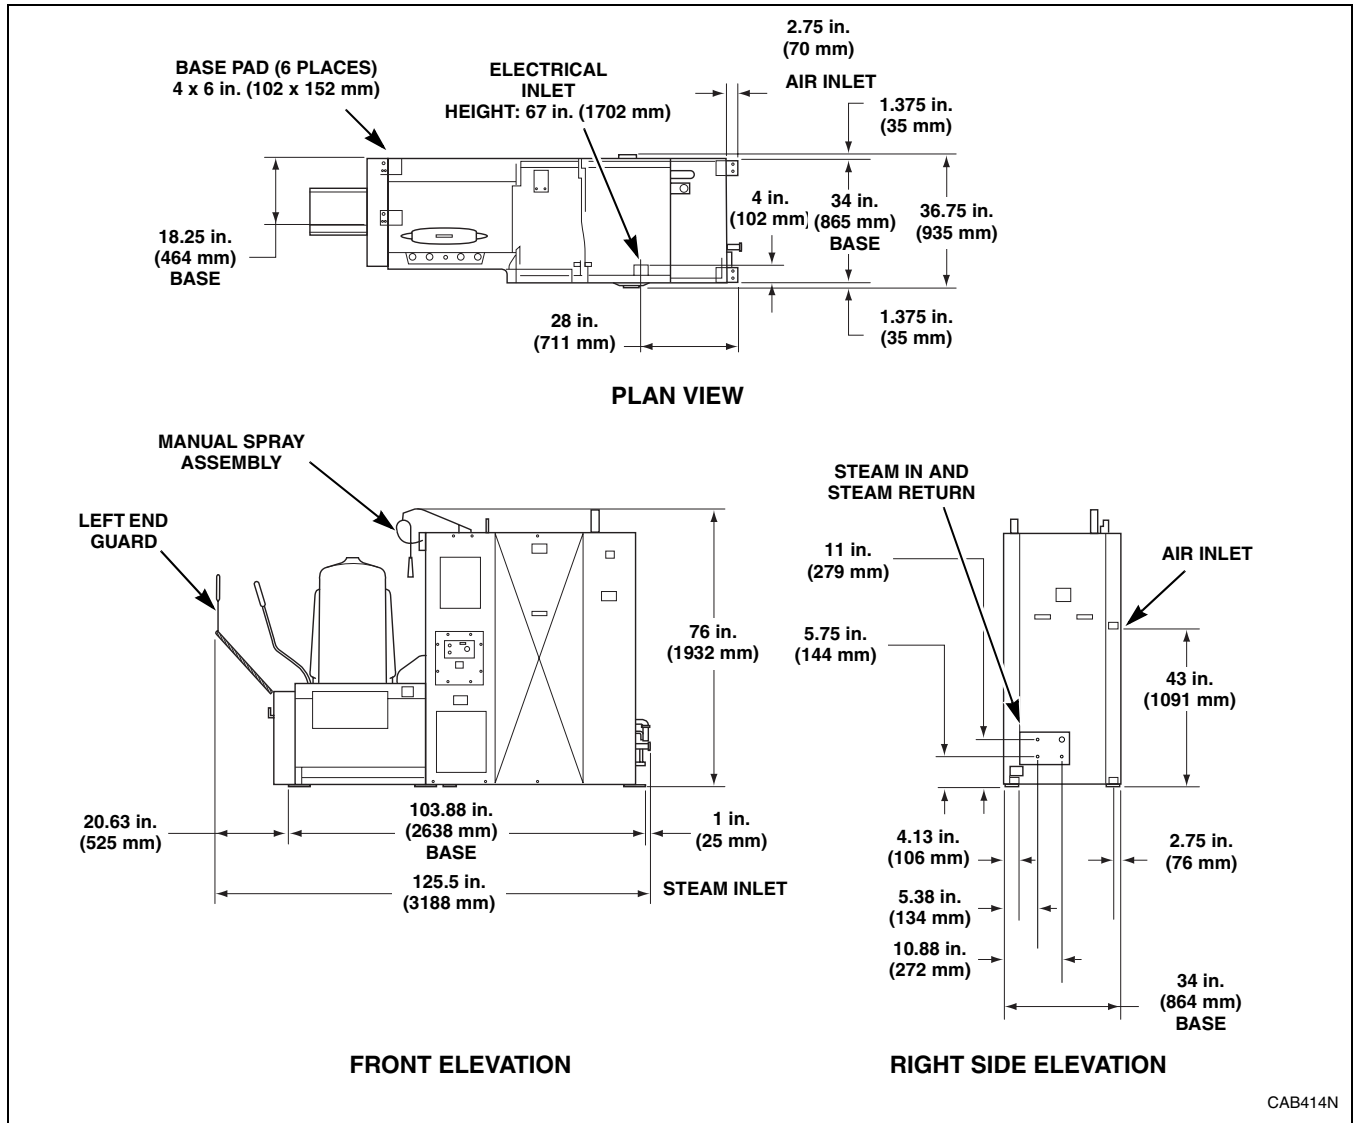

Figure 1
2. Install left end guard using attached hardware before opening press heads. Refer to *Figure 1* for location if needed.